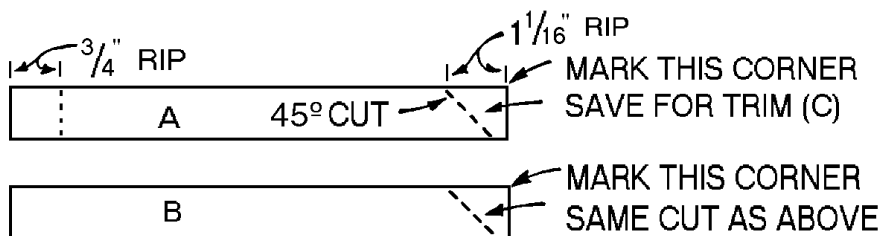

Figure 1
1. Cut two 79-inch lengths of 1 x 10 pine and label them right back (A) and left back (B).
2. Rip right back (A) to a width of 8-1/2 inches, cutting off 3/4 along its full length (Refer to *Figure 1*.) This will allow both backs (A and B) to be the same width when they are overlapped and fitted together at the center in a later step.
3. Mark the corners of right back (A) and left back (B) as shown in *Figure 1*. (You'll need the mark for future reference). Then, set your saw blade to cut 45 degree off vertical, and, as shown in *Figure 1*, rip both the right and left backs lengthwise. Be sure to measure carefully and make your bevel cut exactly 1-1/16: from the edge of each back piece (A and B). Save the resulting marked and ripped pieces because they will be re-attached to the same edge to form the trim (C). (That may sound confusing, but it easy to do. It is